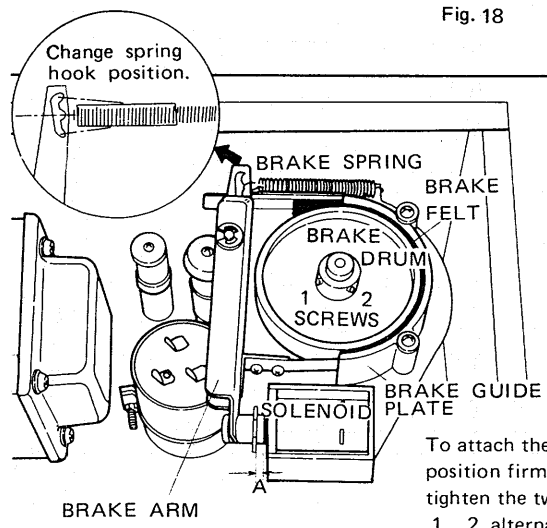

Fig. 19
- Is A in Fig. 19 4mm when the solenoid is not operating?
● Adjustment (Figs. 19, 20)